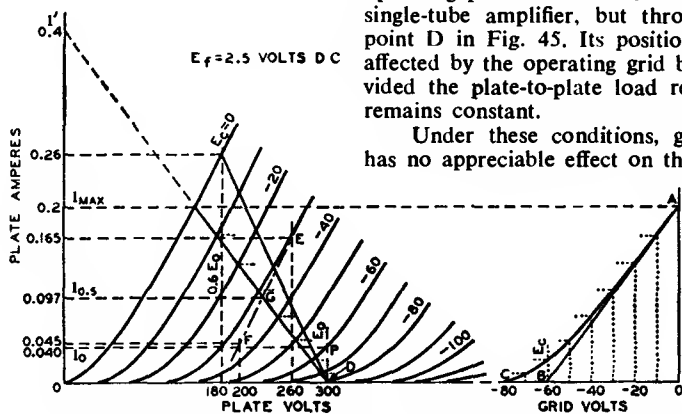

Fig. 45—Graphic calculations for class AB₁ amplifier. Fig. 46—Instantaneous curve using a power triode for class AB₁ amplifier.
In class AB₁ push-pull amplifier service using triodes, the operating conditions may be determined graphically by means of the plate family if E_o , the desired operating plate voltage, is given. In this service, the dynamic load line does not pass through the operating point P as in the case of the single-tube amplifier, but through the point D in Fig. 45. Its position is not affected by the operating grid bias provided the plate-to-plate load resistance remains constant.
In general, for any load line through point D, Fig. 45, the plate-to-plate load resistance in ohms of a push-pull amplifier is $R_{pp} = 4E_c/I'$, where I' is the plate-current value in amperes at which the load line as projected intersects the plate-current axis, and E_c is in volts. This formula is another form of the one given under push-pull class A amplifiers, $R_{pp} = 4(E_c - 0.6E_0)/I_{max}$, but is more general. Power output = $(I_{max}/\sqrt{2})^2 \times R_{pp}/4$, where I_{max} is the peak plate current at zero grid volts for the load chosen. This formula simplified is $(I_{max})^2 \times R_{pp}/8$. The maximum-signal average plate current is $2I_{max}/\pi$ or $0.636 I_{max}$; the maximum-signal average power input is $0.636 I_{max} \times E_0$.
Example: Fig. 45 illustrates the application of this method to a pair of power triodes operated at $E_0 = 300$ volts. Each tube has a plate-dissipation rating of 15 watts. The method is to
the plate family and the load line. Fig. 46 is a curve of instantaneous values of plate current and dc grid-bias voltages taken from Fig. 45. Values of grid bias are read from each of the grid-bias curves of Fig. 45 along the load line and are transferred to Fig. 46 to produce the curved line from A to C. A tangent to this curve, starting at A, is drawn to intersect the grid-voltage abscissa. The point of intersection, B, is the operating grid bias for fixed-bias operation. In the example, the bias is -60 volts. Refer back to the plate family at the operating conditions of plate volts = 300 and grid bias = -60 volts; the zero-signal plate current per tube is seen to be 0.04 ampere.
As in the case of the push-pull class A amplifier, the second-harmonic distortion in a class AB₁ amplifier using triodes is very small and is largely canceled by virtue of the push-pull connection. Third-harmonic distortion, however, which may be larger than permissible, can be found by means of composite characteristic curves. A complete family of curves can be plotted, but for the present purpose only the one corresponding to a grid bias of one-half the peak grid-voltage swing is needed. In the example, the peak grid voltage per tube is 60 volts, and the half value is 30 volts. The composite curve, since it is nearly a straight line, can be constructed with only two points (see Fig. 45). These two points are obtained from deviations above and below the operating grid and plate voltages.
These steps provide points at 260 volts and 0.165 ampere (E), and at 200 volts and 0.045 ampere (F). A straight line through these points is the composite curve for a bias of -30 volts, shown as a long-short dash line in Fig. 45. At the intersection of the composite curve and the load line, G, the instantaneous composite plate current at the point of one-half the peak signal swing is determined. This current value, designated $I_{0.5}$ and the peak plate current, I_{max} , are used in the following formula to find the peak value of the third-harmonic component of plate current.